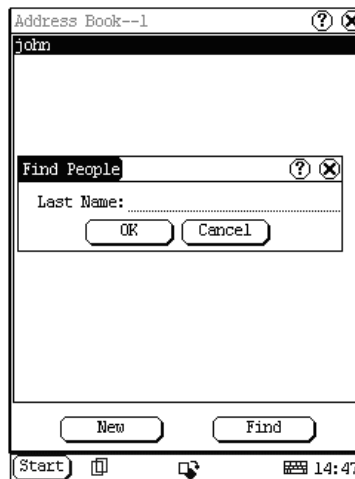

Fig 4-18
- 1) In the Address Book interface, click [Find] button to pop up the Find People interface. See Fig 4-18.